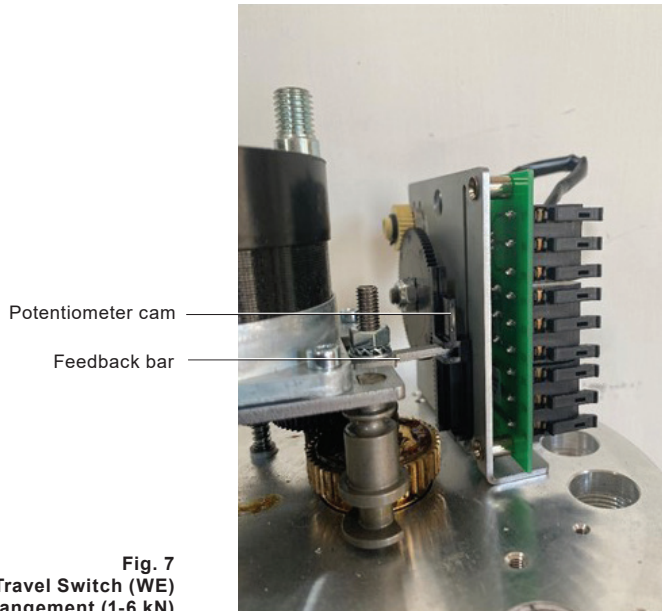

Fig. 7
- Couple the fixed feedback bar directly to the driving rod of main actuator spindle. See Fig. 7 "Auxiliary Travel Switch Feedback Arrangement (1-6 kN)" for product orientation
- Slide switch S4 first onto the switch retaining pins ensuring that orientation is as shown in Fig. 7
- Slide switch S5 onto the switch retaining pins ensuring that orientation is as shown in Fig. 7